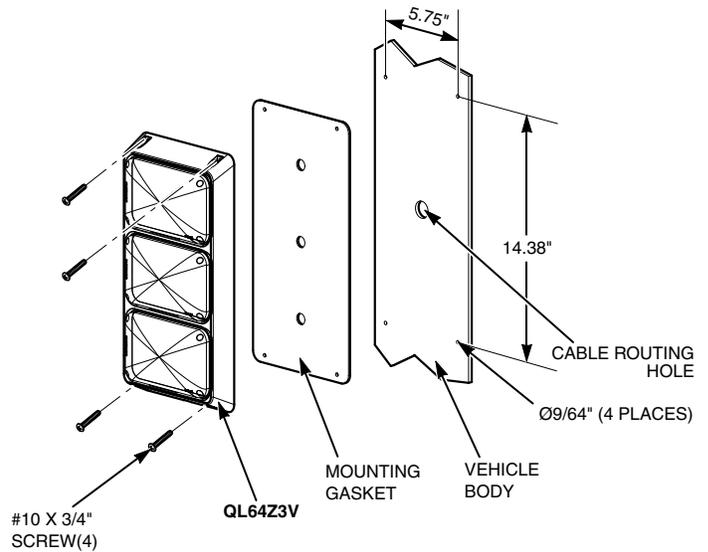

Figure 1.
For maximum coverage and effectiveness, each respective light assembly must be mounted in the orientation shown in Figure 1 (page 3). Make certain that the drain hole in each bezel casting is orientated on the bottom prior to mounting.
1. See Figure 1. Position the Triple Stack warning light assembly on the desired mounting surface. Ensure that the unit is level side to side. Using the Triple Stack warning light assembly as a guide and the dimensions in Figure 1, scribe the four mounting hole locations and a wire routing hole location on the mounting surface.
5. See Figure 1. Align the mounting gasket and Triple Stack warning light assembly over the previously drilled holes. Carefully place any wire or connectors into the recessed area in the back of the aluminum bezel. Secure the assembly in position with the provided #10 x 3/4" screws.